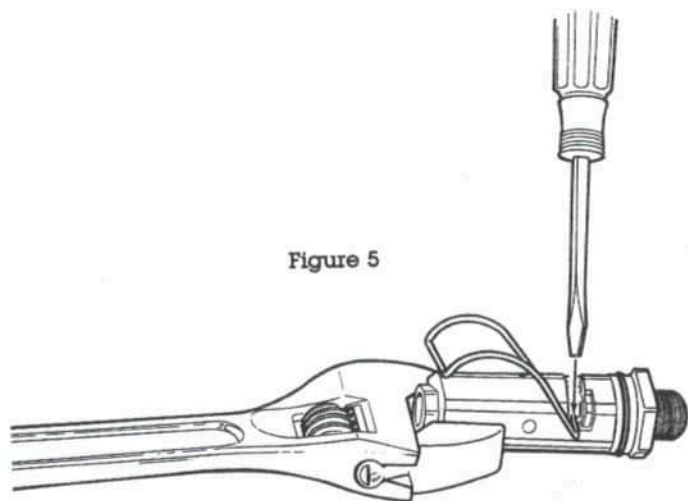

Figure 5
12. Using an 1/8 inch flat-blade screwdriver, and a 12 inch Crescent wrench, place demand valve body between jaws of Crescent wrench (see Fig. 5). With the 1/8 inch screwdriver press down on the "legs" of the lever (Item 57), until each snaps into the slots in the demand valve body.